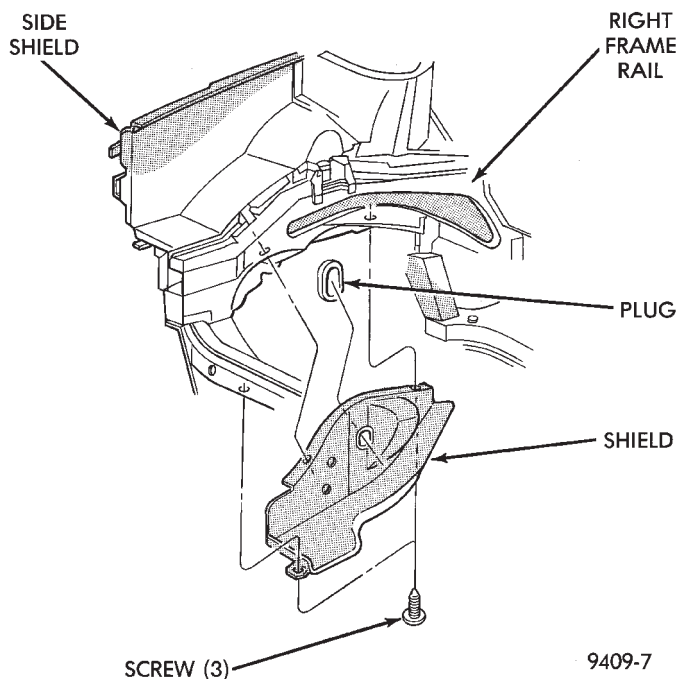

Fig. 33 Right Inner Splash Shield
(1) Remove accessory drive belts. Refer to Group 7, Cooling System for procedure outlined in that section.
(2) Raise vehicle on a hoist and remove right inner splash shield (Fig. 33).